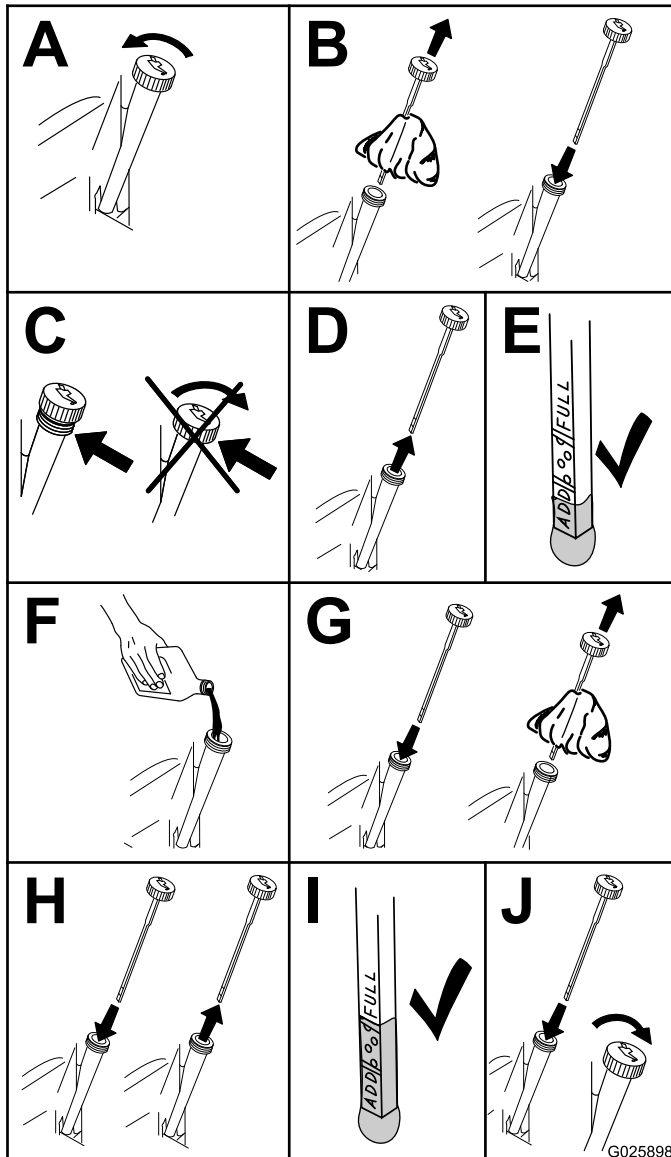

Figure 39
3. Check the engine-oil level as shown in Figure 39.